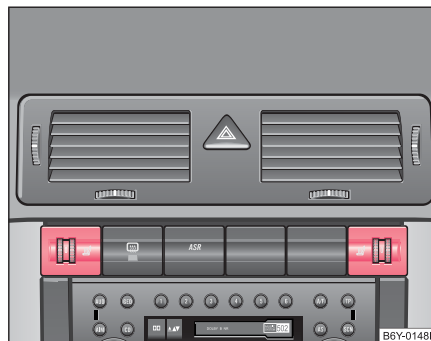

Fig. 47 Dash panel: Control dial for heating the front seats
- Heating on the driver's ⇒ page 66, fig. 47 and front passenger's seat can be switched on and regulated by turning the control dial as required.